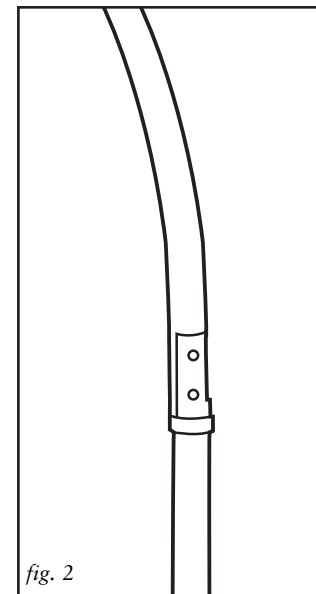

fig. 2
3. Place one curved steel arm on the rear circular tube (closest to vehicle) of the Trailer Hitch Stand base, aligning the holes in the curved bar with the holes in the stand base, the top of the curved arm angled to the left (see fig. 2). Align holes, insert bolts, and secure tightly.